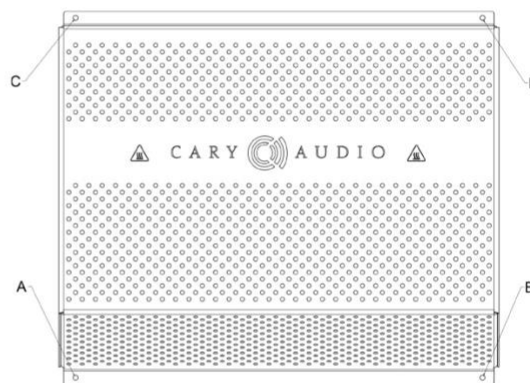
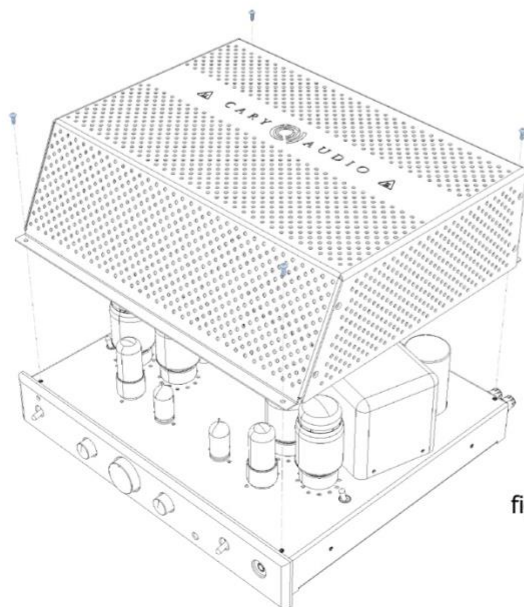

fig 1.2
fig1.3
2. Take note of the corresponding holes on the top cover (figure 1.2) and align them with the screw holes on the SLI-80 chassis, as shown in the figure 1.3.